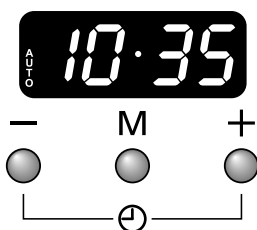

Fig. 4.10
1. Press the the [+] and [-] buttons simultaneously, then the mode [M] button. The display will show 'ton1,2 or 3' (Fig. 4.10).